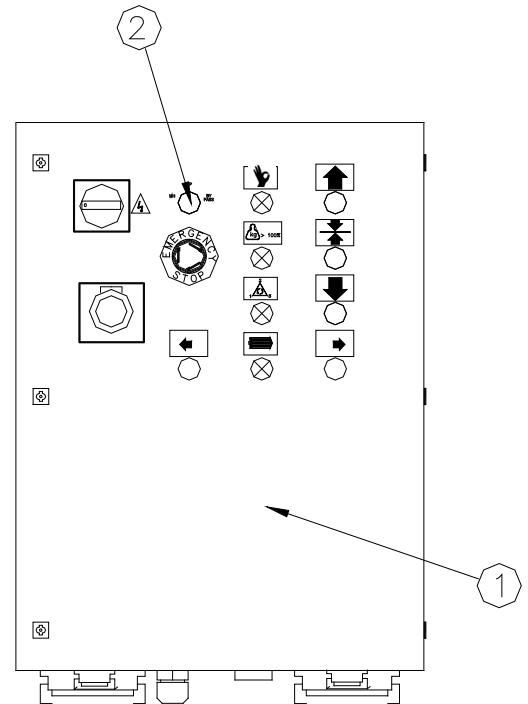
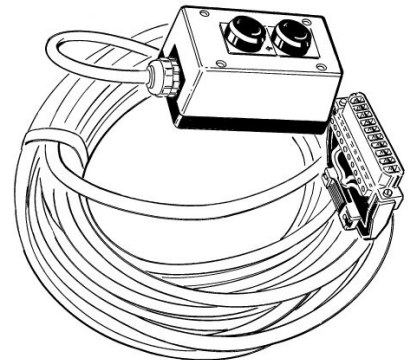

Fig.K.06. Main panel
Fig.K.07. Drop Test Push Button
1. Connect the drop test push button box (fig K.07) using the socket inside the main electrical panel (1-fig K.06).
2. Set key selector (2-fig K.06) to the “TP” position.